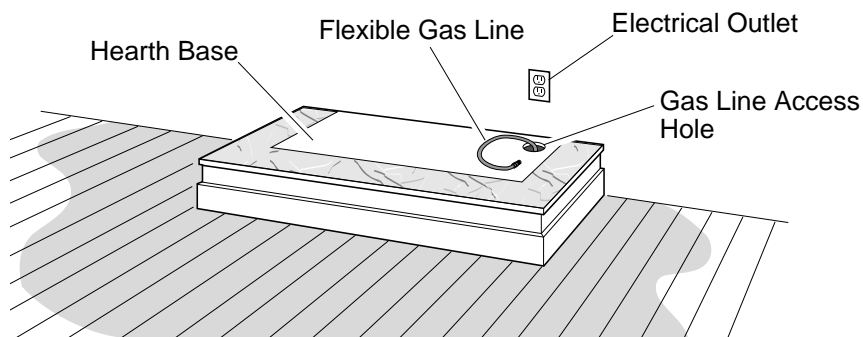

Figure 8 - Placing Hearth Base Accessory Against Wall
2. Install a properly grounded, 120 volt three-prong electrical outlet at fireplace location if an outlet is not there. If possible, locate outlet so cabinet mantel will cover it when installed (see Figure 8, page 12).
4. Place hearth base accessory against wall at installation location. Cut an access hole in hearth top to run flexible gas line to fireplace (see Figure 8). Make sure to locate access hole so cabinet mantel will cover it when installed. **Note:** You can secure base to floor using wood screws. Countersink screw heads and putty over.